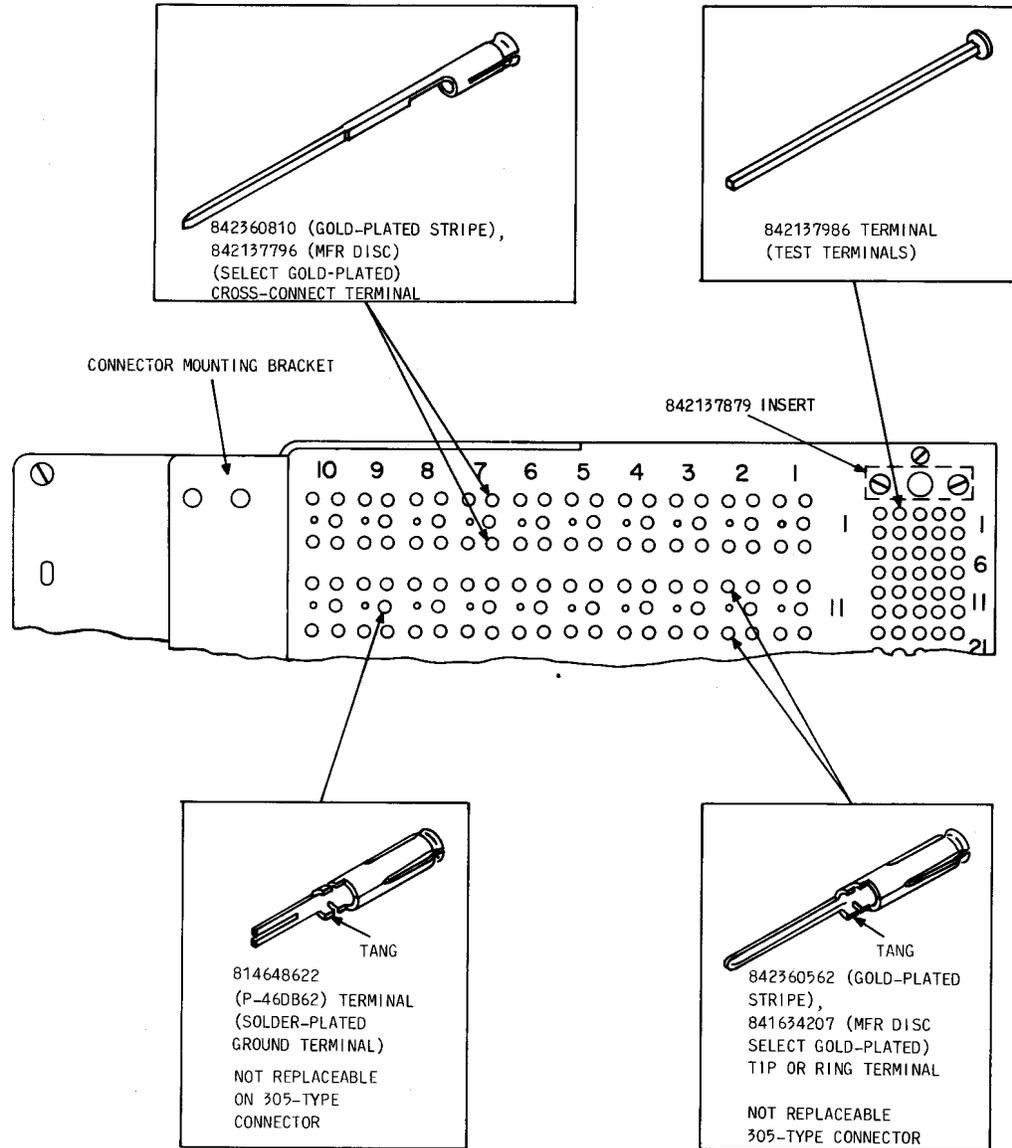

Fig. 2—305-Type Connector, Left Side
- (1) From the front side of the connector, insert the new terminal into the same hole from which the old terminal was removed using the B long-nose pliers or the KS-16748 inserter. Instructions for use of the KS-16748 inserter are given in Section 201-220-801.
- (2) Reconnect all leads to the P-21E489 terminal.
4.15 842360810 Cross-Connect Terminal (Fig. 2): To replace terminal proceed as follows.
4.16 842137986 Test Terminal (Fig. 2): Follow the procedures outlined in paragraph 4.13.
6.04 842137879 Insert (Fig. 2, 6 and 7): The 100-pair M test connector attaches to the 305-type connector by means of two thumbscrew fasteners which engage threaded inserts at the top and bottom of the test contact field. Replace the threaded inserts as follows: